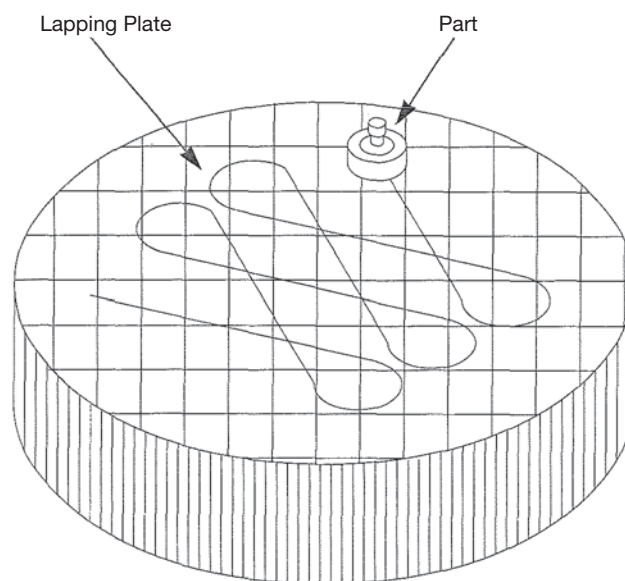

Figure 8.1
2. Select the appropriate lapping compound. When lapping the disc, operate with a light figure eight motion over entire block surface. In this way complete contact will be made (Figure 8.1).